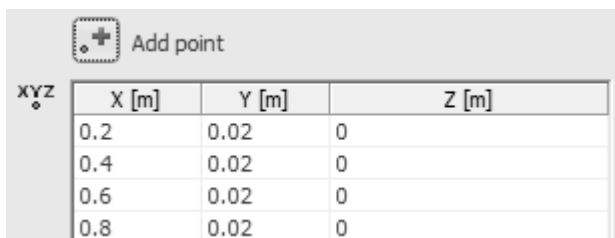
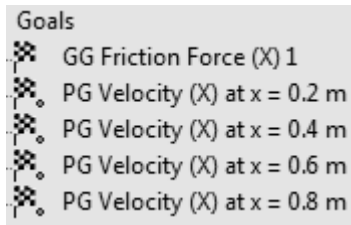
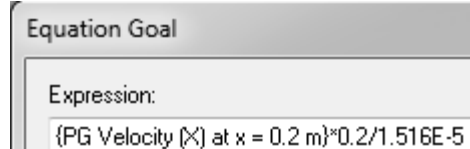

Figure 2.21e) Coordinates for point goals
Figure 2.21f) Renaming the point goals
Figure 2.21g) Entering an equation goal
21. Right click on **Goals** in the **Flow Simulation analysis tree** and select **Insert Global Goals...**. Select **Friction Force (X)** as a global goal. Exit the **Global Goals** window. Right click on **Goals** in the **Flow Simulation analysis tree** and select **Insert Point Goals...**. Click on the  **Point Coordinates** button. Enter **0.2 m** for X coordinate and **0.02 m** for Y coordinate and click on the **Add Point** button . Add three more points with the coordinates shown in figure 2.21e). Check the **Value** box for **Velocity (X)**. Exit the **Point Goals** window. Rename the goals as shown in figure 2.21f). Right click on **Goals** in the **Flow Simulation analysis tree** and select **Insert Equation Goal...**. Click on the **Velocity (X) at x = 0.2 m** goal in the **Flow Simulation analysis tree**, multiply by  $x = 0.2 \text{ m}$  and divide by the kinematic viscosity of air at room temperature ( $\nu = 1.516\text{E-}5 \text{ m}^2/\text{s}$ ) to get an expression for the Reynolds number in the **Equation Goal** window, see figure 2.21g). Select **No units** from the dimensionality drop down menu. Click on the **OK** button to exit the **Equation Goal** window. Rename the equation goal to **Reynolds number at x = 0.2 m**. Insert three more equation goals corresponding to the Reynolds numbers at the three other  $x$  locations. For a definition of the Reynolds number, see page 2-21.